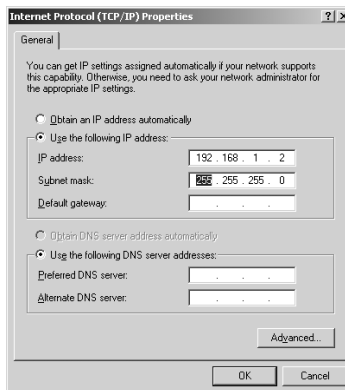

Figure 10: Internet Protocol (TCP/IP) Properties Window
6. Select Use the following IP Address, and fill in the details as shown in Figure 10.